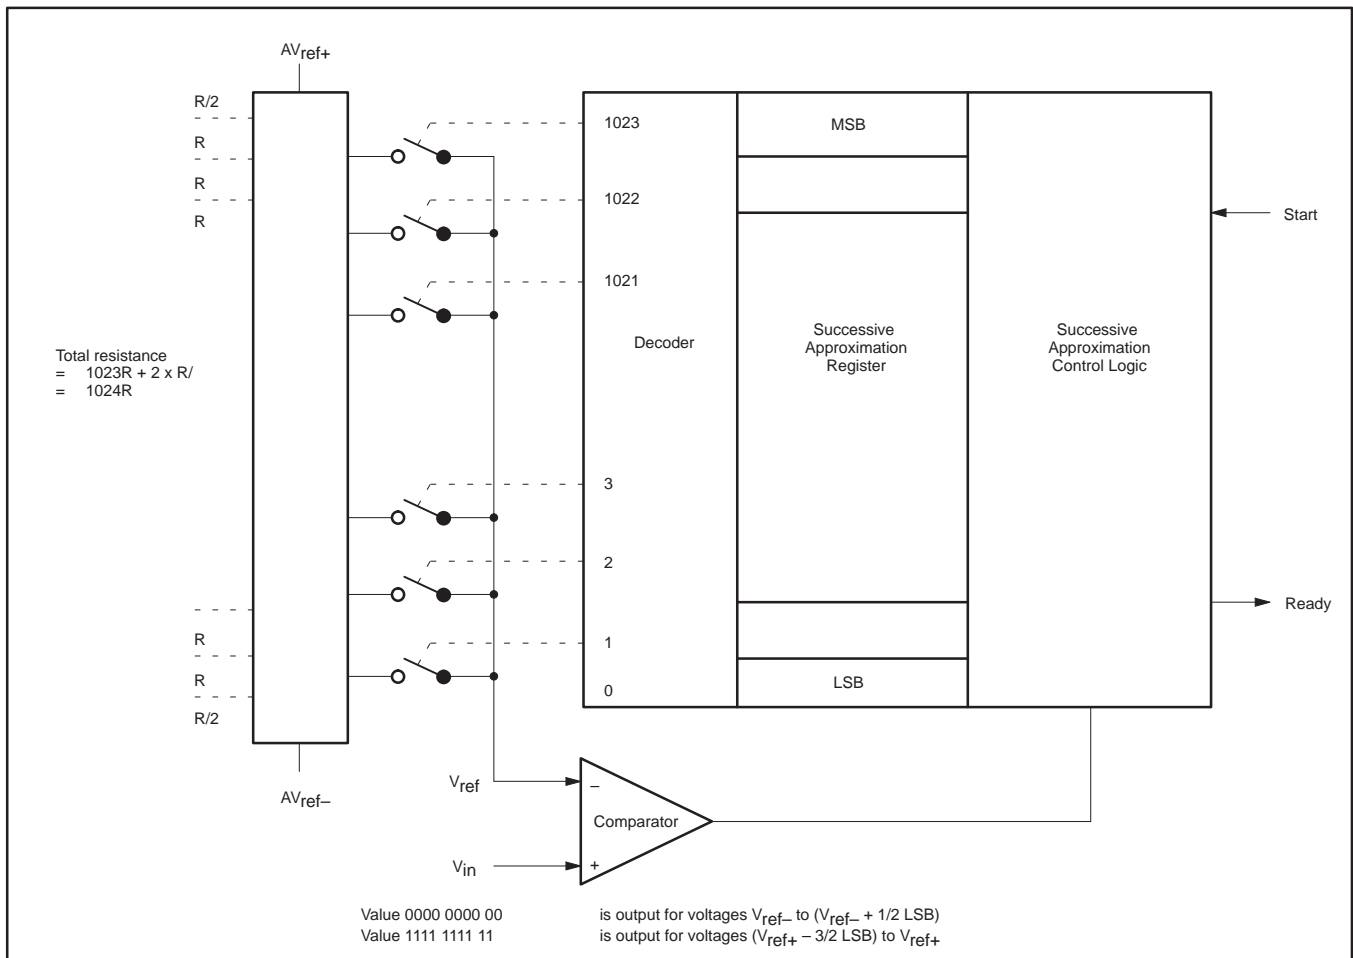
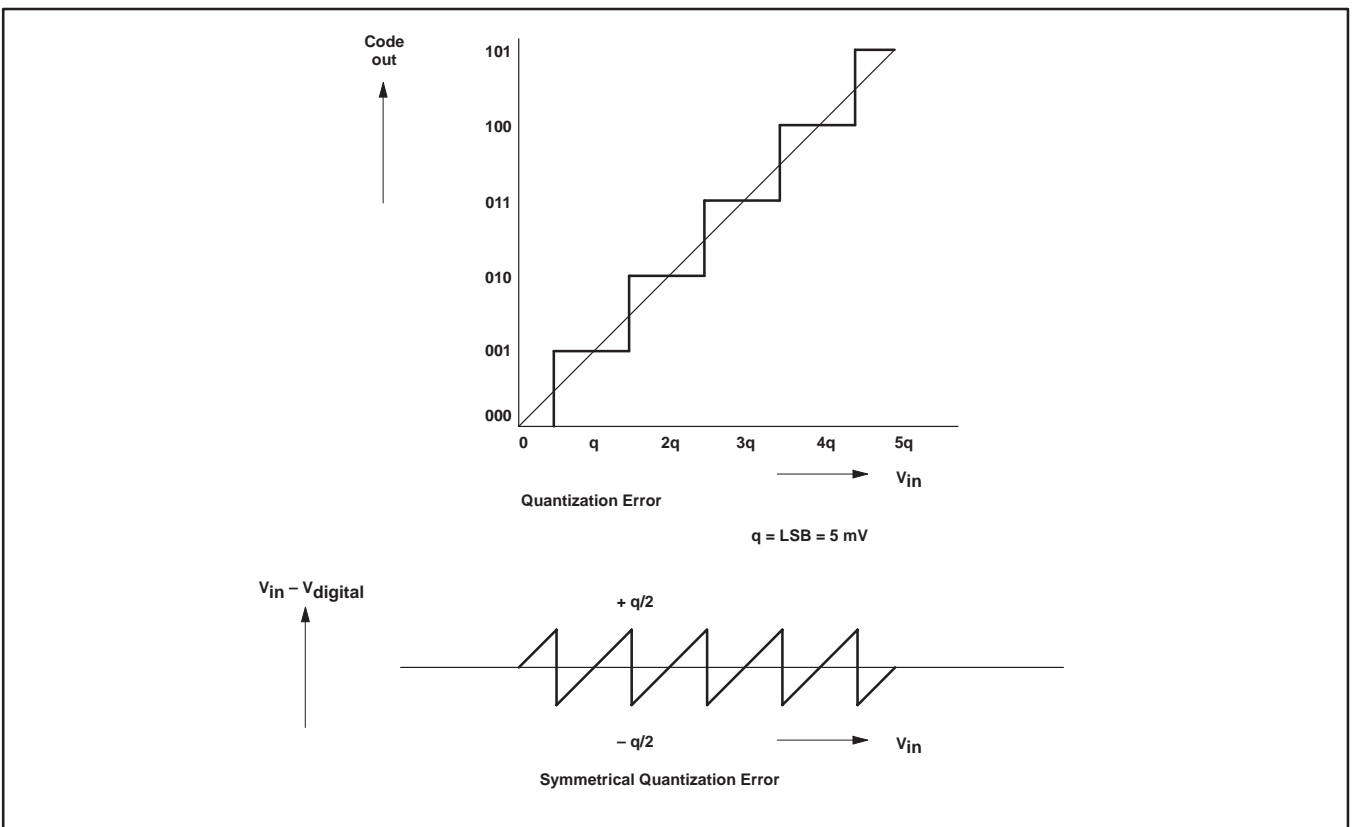

Figure 38. ADC Realization
Figure 40. Effective Conversion Characteristic
**ADC Resolution and Analog Supply:** Figure 38 shows how the ADC is realized. The ADC has its own supply pins ( $AV_{DD}$  and  $AV_{SS}$ ) and two pins ( $V_{ref+}$  and  $V_{ref-}$ ) connected to each end of the DAC's resistance-ladder. The ladder has 1023 equally spaced taps, separated by a resistance of "R". The first tap is located  $0.5 \times R$  above  $V_{ref-}$ , and the last tap is located  $1.5 \times R$  below  $V_{ref+}$ . This gives a total ladder resistance of  $1024 \times R$ . This structure ensures that the DAC is monotonic and results in a symmetrical quantization error as shown in Figure 40.